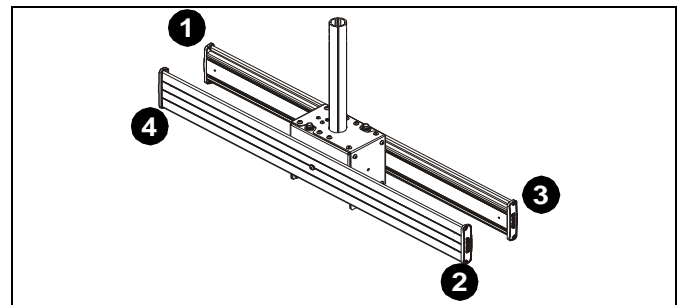

Figure 8
**IMPORTANT ! :** Install displays by placing the first display on the mount, and then adding the second display on the other side of the mount at the opposite end of the mount. Repeat for remaining displays. (See Figure 8)